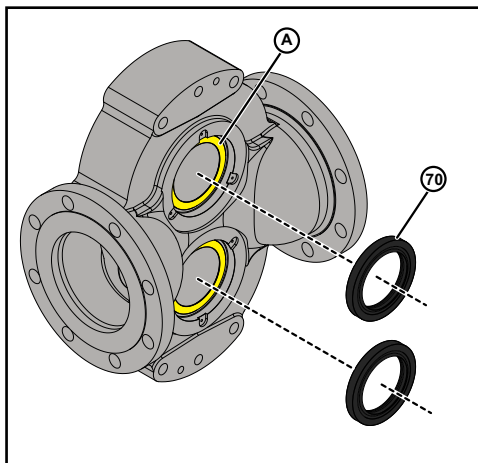

Figure 118 - Remove Lip seals
3. Remove and discard the lip seal (70) by using suitable tool like claw hammer/screw driver etc.
4. Remove the thin bead of silicone sealant (A) from the body, as shown in Figure 118.